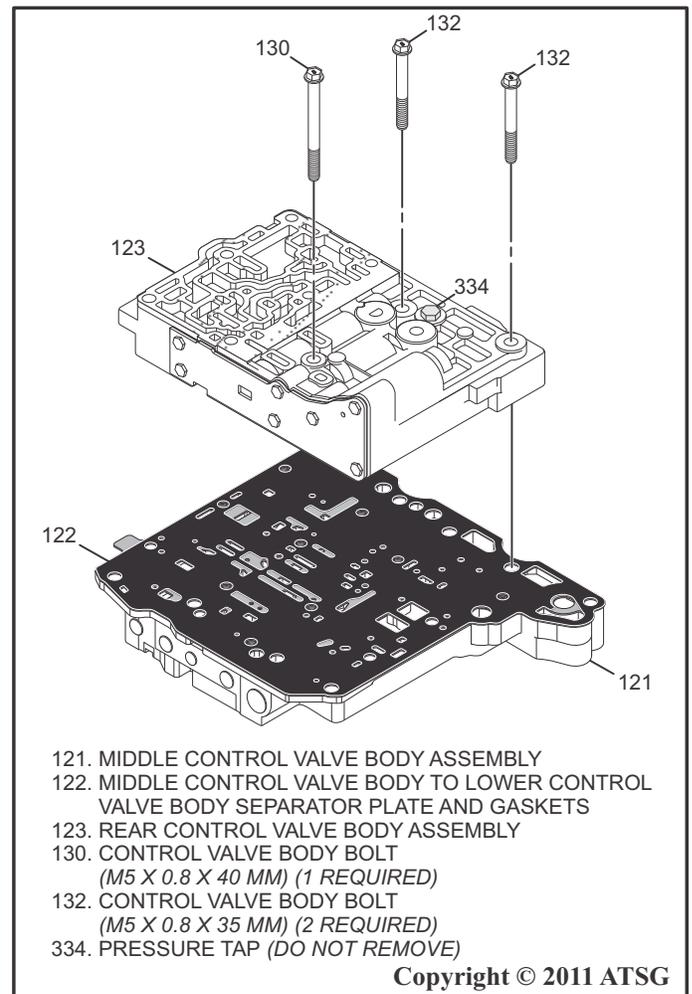

Figure 160
14. Remove the three control valve body bolts using an 8 mm socket as shown in Figure 160.
15. Lift straight up and remove the rear control valve body assembly as shown in Figure 160.